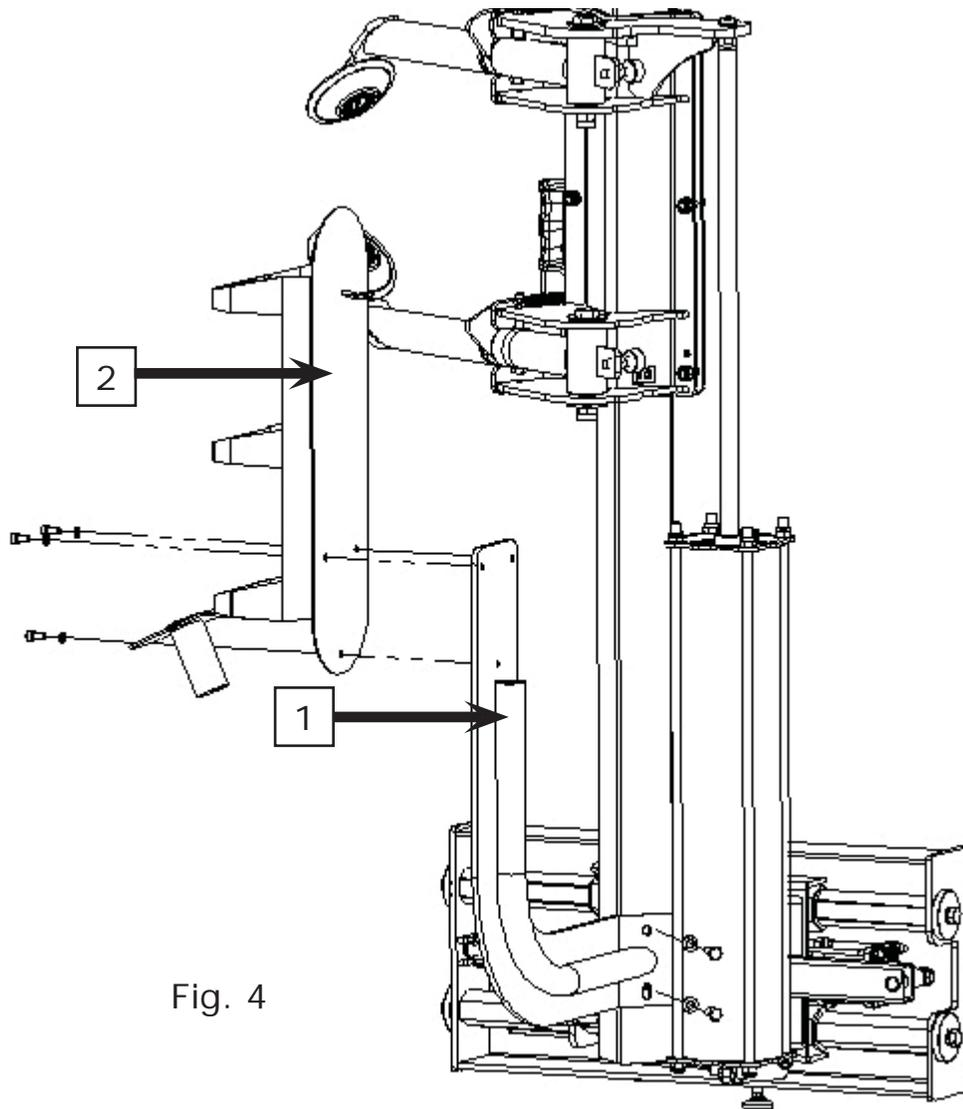

Fig. 4
## 4.2.2 Installation of tool tray (ref. fig. 4)
- Install the support (1) onto the bead breaking arm using the supplied screws and washers as shown in the figure 4, and then tighten the screws;
- Install the tool tray (2) onto the support (1) using the supplied screws and washers as shown in figure 4, and then tighten the screws.